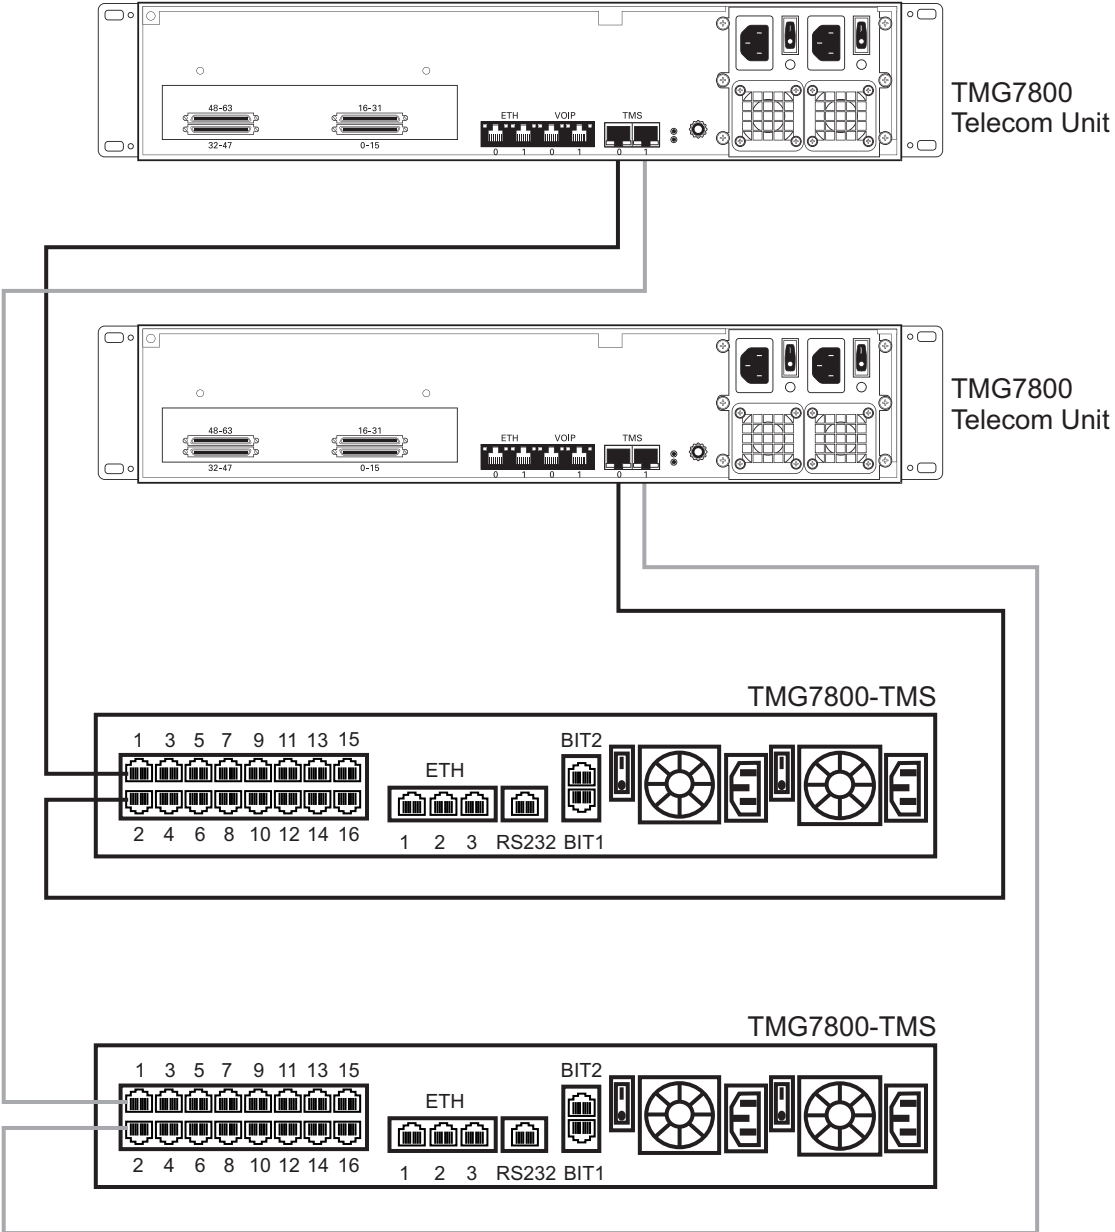

Figure 2.9 Example of Interconnecting 2 TMG7800 Telecom Units to an active and standby TMG7800-TMS
1. Start with the TMG7800 Telecom Unit at the topmost position of the equipment rack and connect a CAT7 shielded Ethernet crossover cable to the TMS0 connector at the rear of the TMG7800 Telecom Unit, figure 2.9 on page 25. Connect the other end of the same CAT7 cable to the first port of the first TMG7800-TMS.
2. If your system employs a second TMG7800-TMS, connect a second CAT7 shielded Ethernet crossover cable to TMS1 at the rear of the TMG7800 Telecom Unit, figure 2.9 on page 25. Connect the other end of the same CAT7 cable to the first port of a second TMG7800-TMS.